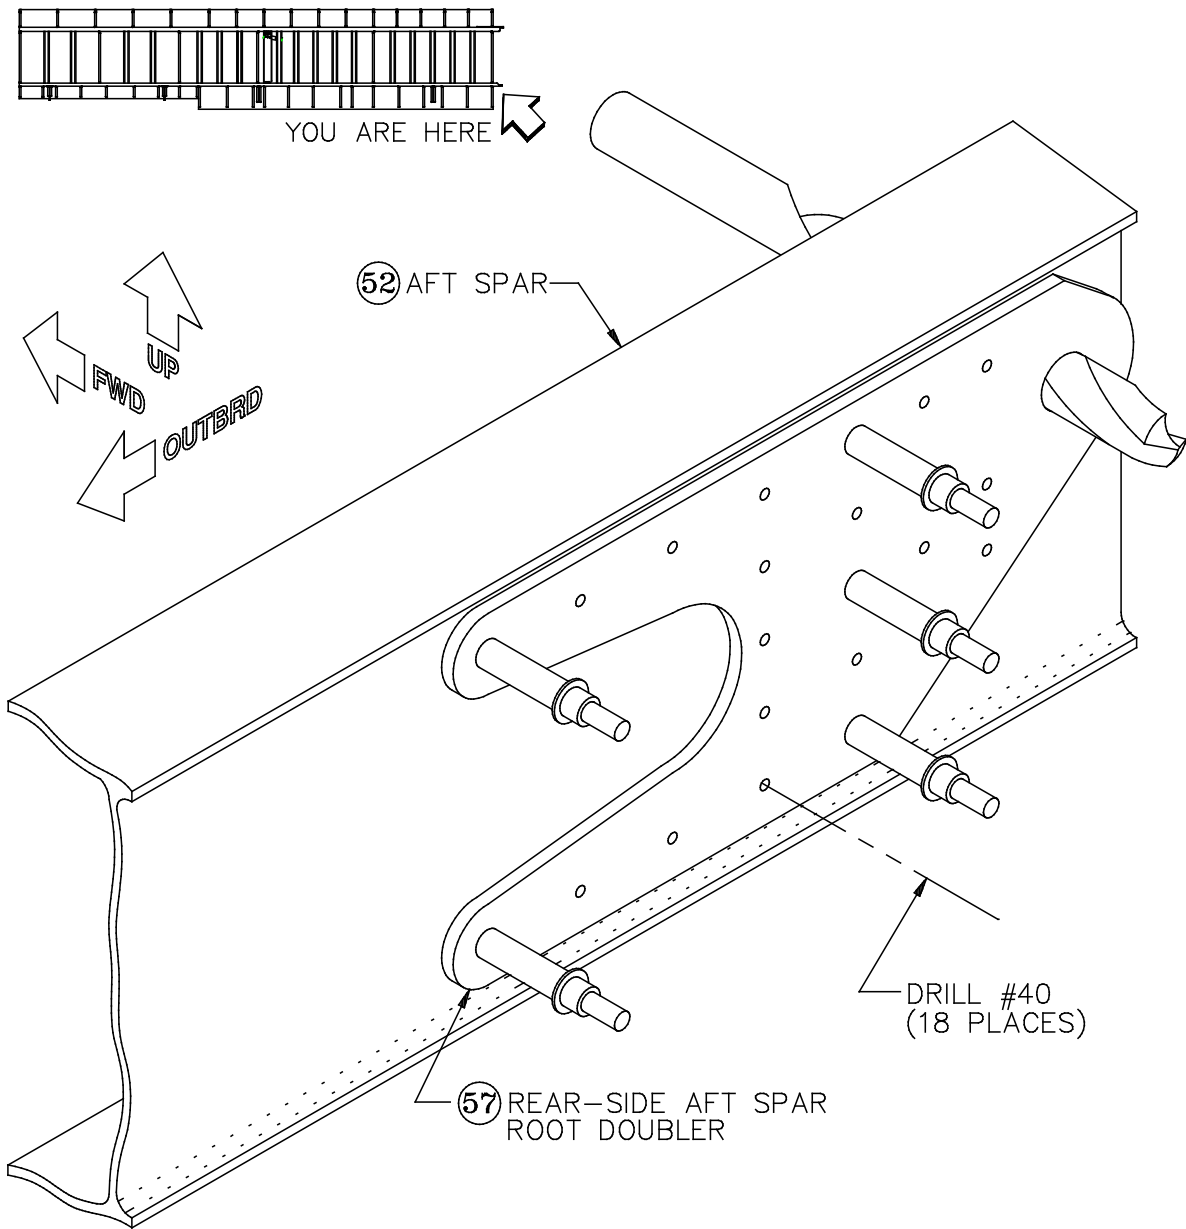

Figure 16: Rear-Side Aft Spar Root Doubler
- c) Use the 1/2" drill bit to align the wing attach hole in the **rear-side aft spar root doubler** [57] with the wing attach holes in the other three parts of the aft spar root assembly, as shown in Figure 16. Use the five #40 holes drilled so far to Cleco the rear-side root doubler to the assembly.